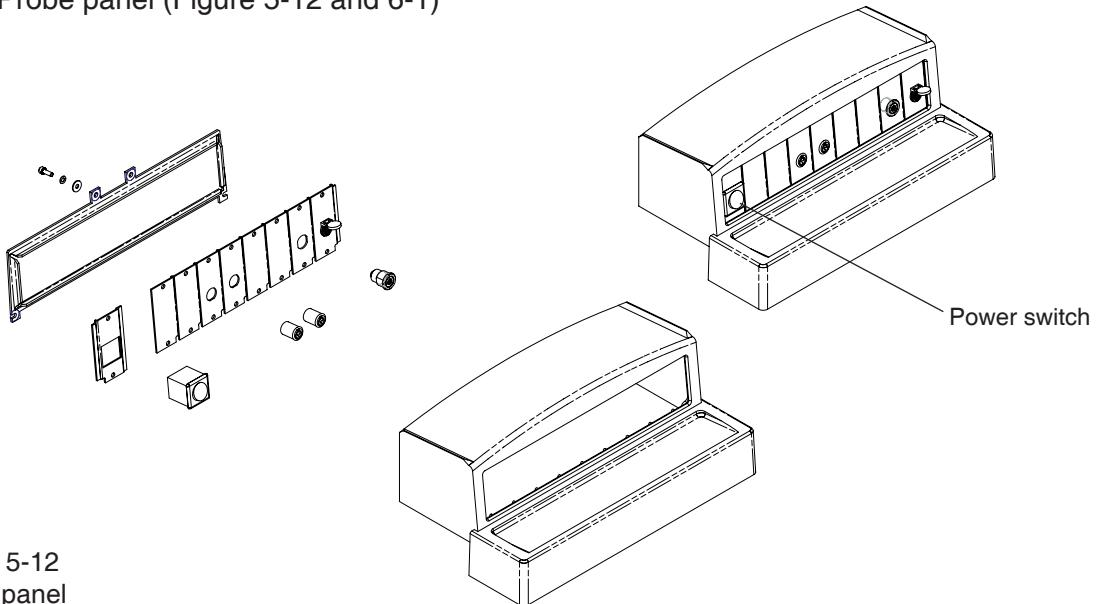

Figure 5-12
5.7.2 Probe panel (Figure 5-12 and 6-1)